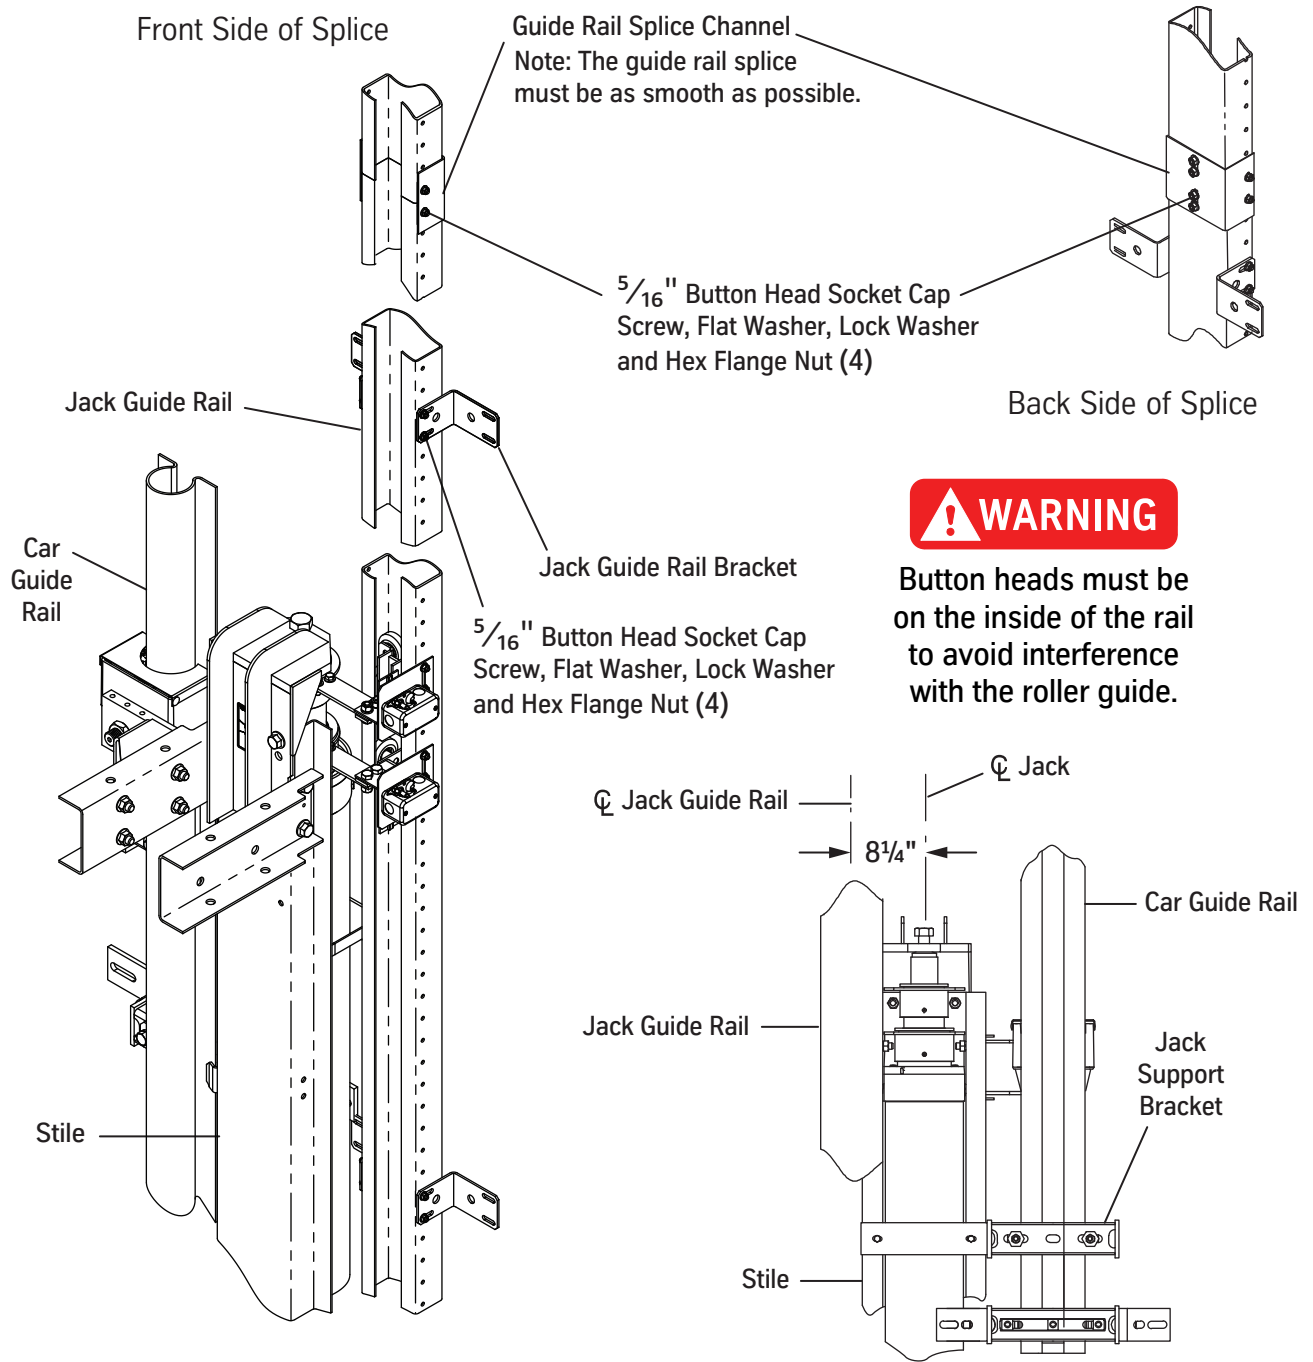

Figure 43 - Stack the Jack Guide Rail Channels
3. Install the splices. See Figure 43 on page 71.